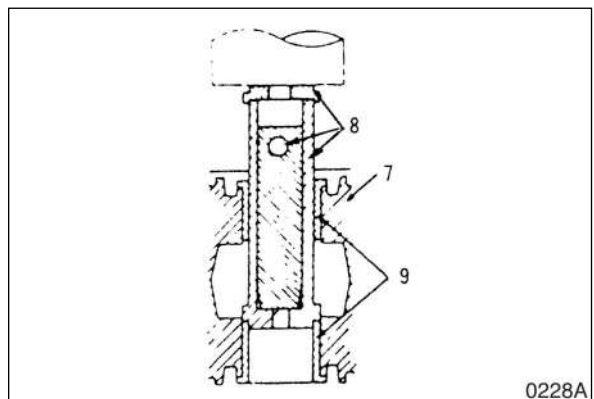

Figure 26
- Remove bushing (8, Figure 26) with the press and special tool (ST-1909).